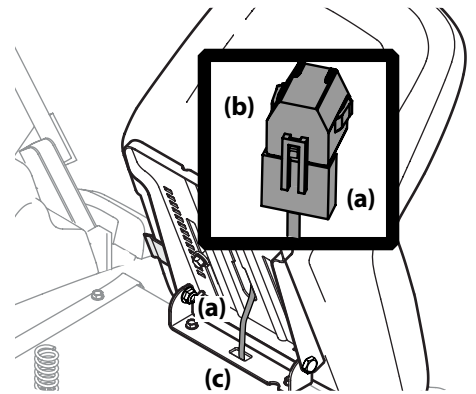

Figure 2-10
4. If necessary, securely connect the seat switch wiring harness (a) to the seat switch (b) as shown in Figure 2-10. Be sure to push the excess wire from the wire harness into the seat box hole (c) before continuing.